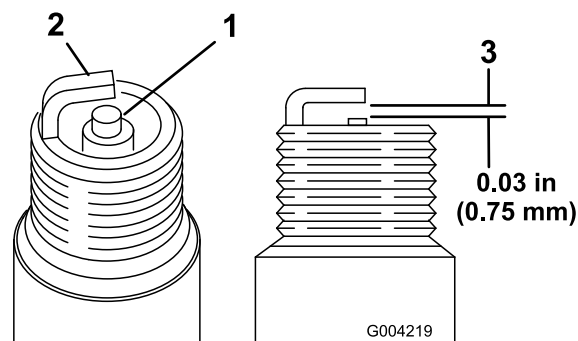

Figure 24
1. Look at the center of both spark plugs (Figure 24). If you see light brown or gray on the insulator, the engine is operating properly. A black coating on the insulator usually means the air cleaner is dirty.
2. Check the gap between the center and side electrodes (Figure 24).
3. Bend the side electrode (Figure 24) if the gap is not correct.